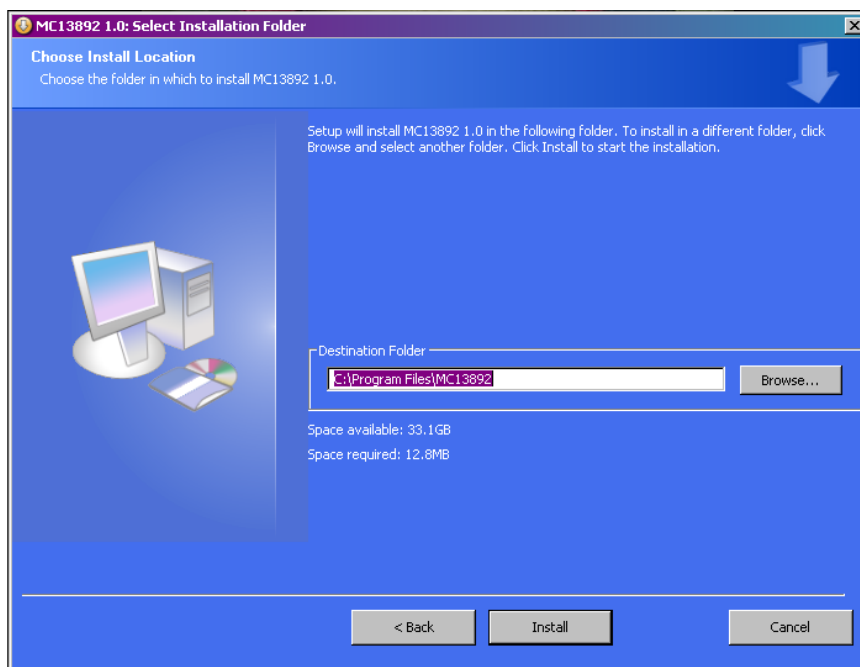

**Figure 14. License Agreement**
1. Double-Click to the executable file. The installer shall run immediately and will look like as depicted in Figure 14.